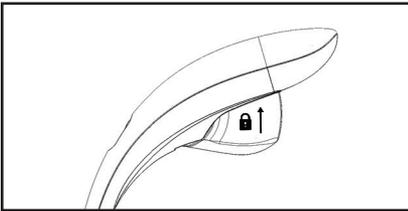

**Figure 3. Strain Relief locked into the Access Port's port housing**
- The Strain Relief is then locked into the Access Port's port housing (Figure 3).